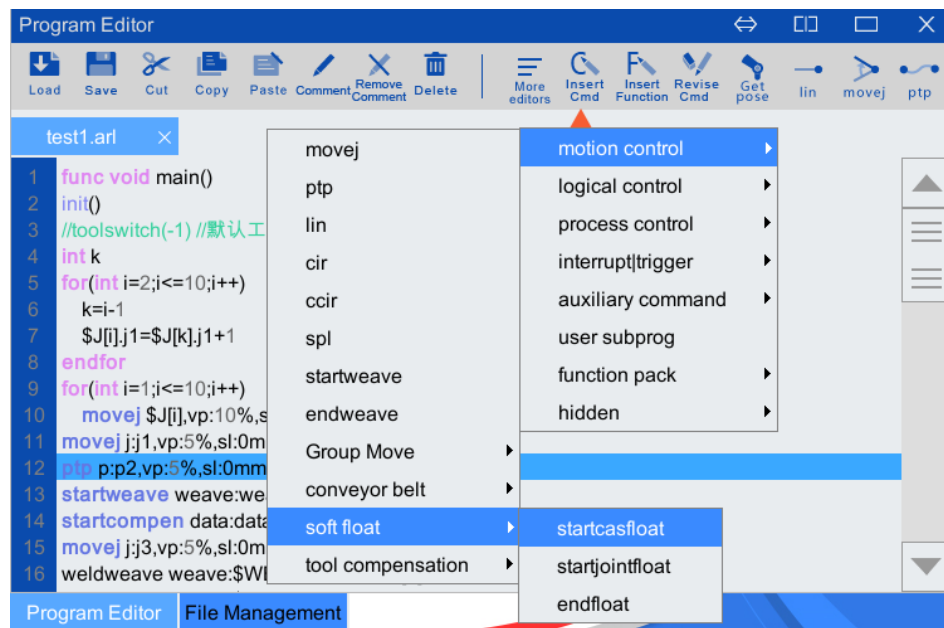

Figure 5-1 Soft float submenu instruction
Step1. Click [Insert Cmd/Motion Control/Soft float], and the selection menu as shown in Figure 5-1 will pop up.